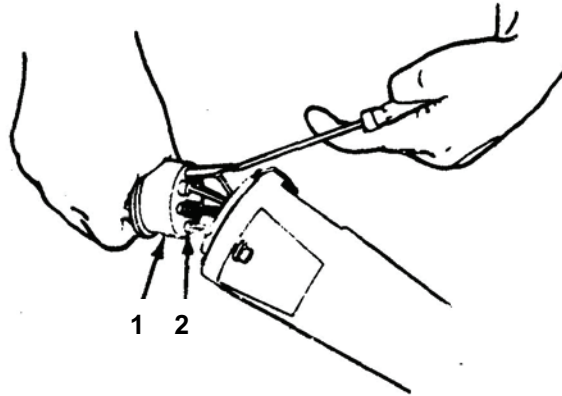

Figure 9. Installing Pin with Insertion Tool
3. Use proper insertion tool/s (WP 0031) and insert pins (Figure 9, Item 2) into support group (Figure 9, Item 1).